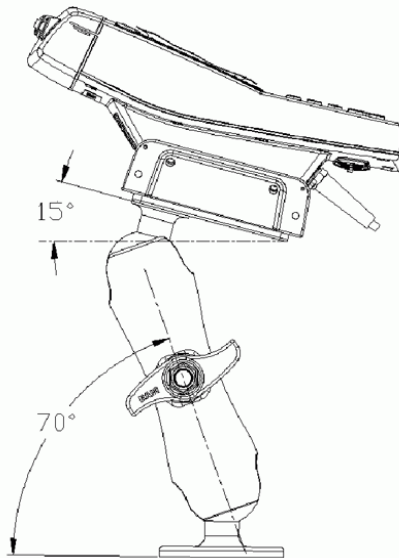

Figure 6.4
1. Select the best orientation for your specific application. Preferred orientations maintain the centre of mass of the vehicle-mount assembly, directly over the centre of the base (see Figure 6.4).